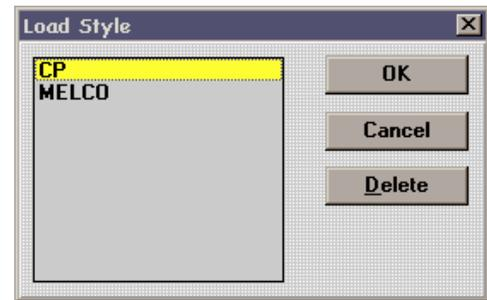

**Figure 5-23**
2. When the Save Style dialog box displays (Figure 5-23), click one or both: Character Style to save the alphabet and its parameters, Line Style to save the line type and its parameters, (check marks appear next to selected choices).